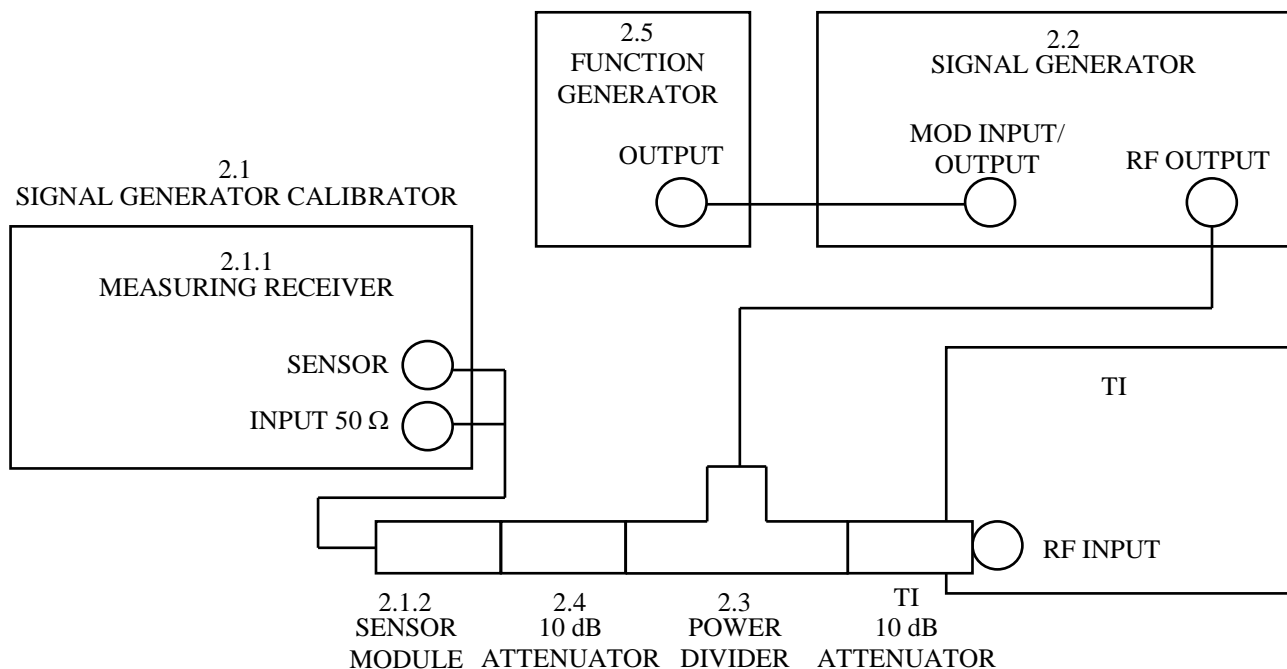

Figure 2. Audio Distortion Test Configuration
4.1.9.1 Connect the function generator OUTPUT to the signal generator MOD INPUT/OUTPUT connector. Ensure that the equipment is now connected as shown in Figure 2.